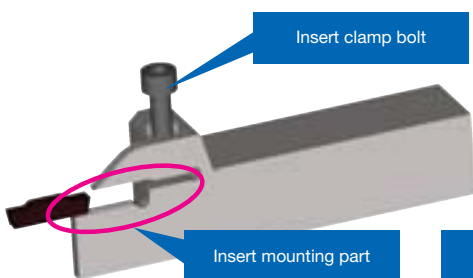
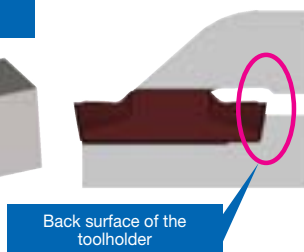

Fig. 1
Fig. 2
1. Used compressed air or other measures to completely eliminate all chips from the insert mounting part (Fig. 1).
2. Set the insert in the toolholder and push until it contacts the backmost surface of the toolholder (See Fig. 1 and Fig. 2).
4. Before using the unit, make sure there is no gap between the insert and the back surface of the toolholder, and that the insert is mounted without tilting (See Fig. 2 and Fig. 3).